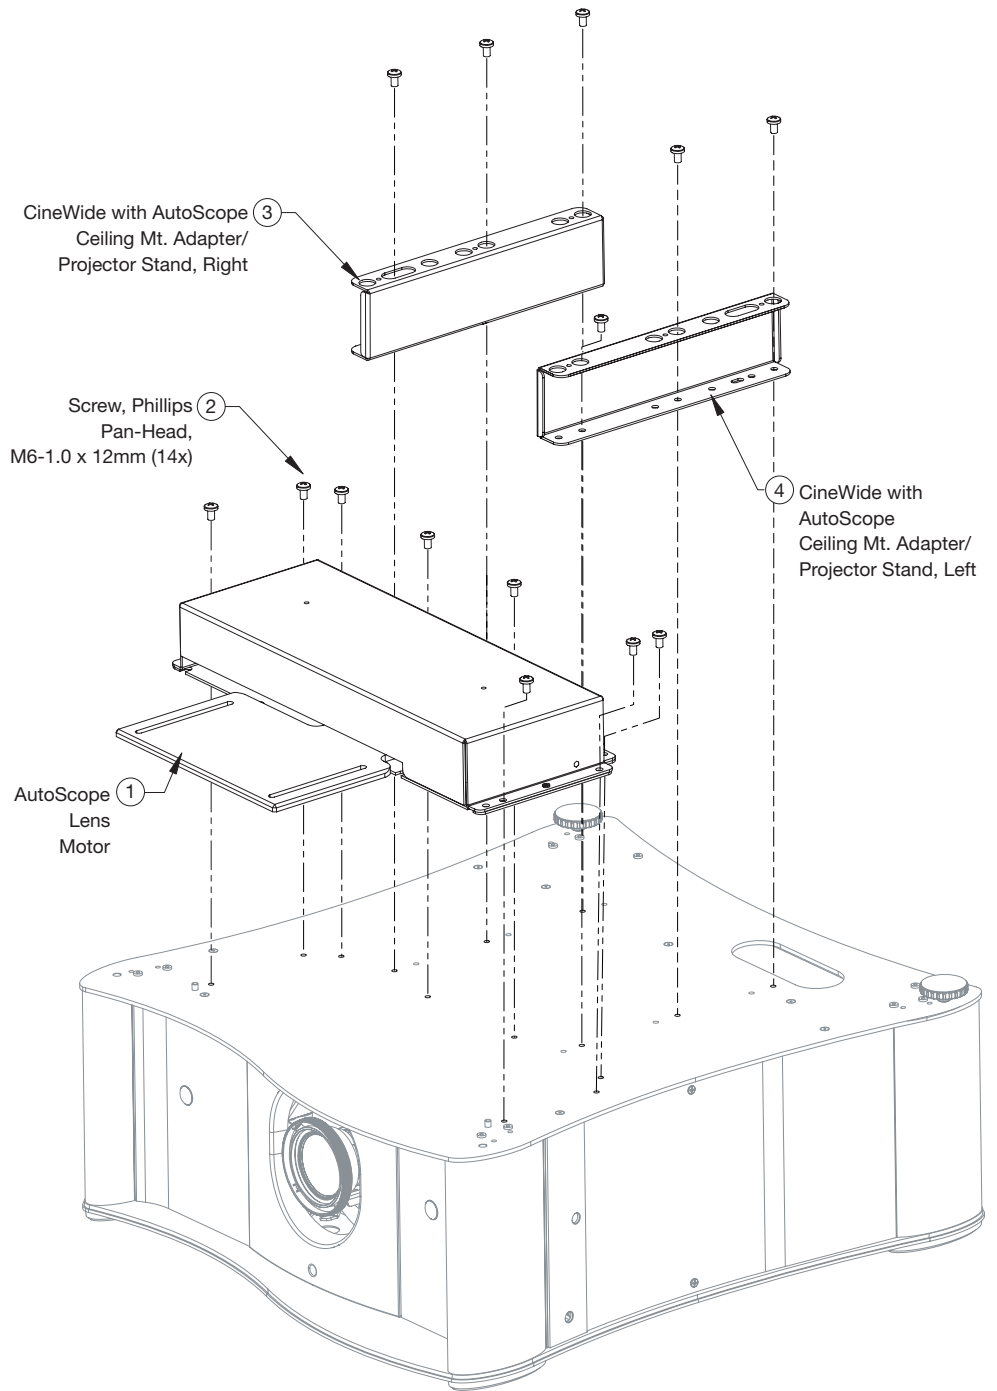

Figure 3-7. X-200i/CineWide with AutoScope Motor Assembly – Exploded View
Figure 3-7 shows the X-200i/CineWide with AutoScope motor assembly.
1. Position the AutoScope lens motor as shown in Figure 3-7.
3. Secure the motor to the projector with the eight (8) supplied M6 x 12mm Pan-Head Phillips screws.
Using six (6) each of the supplied, Pan-Head Phillips screws, attach the AutoScope Ceiling Mount Adapters/Projector Stands to the projector as shown in Figure 3-7.